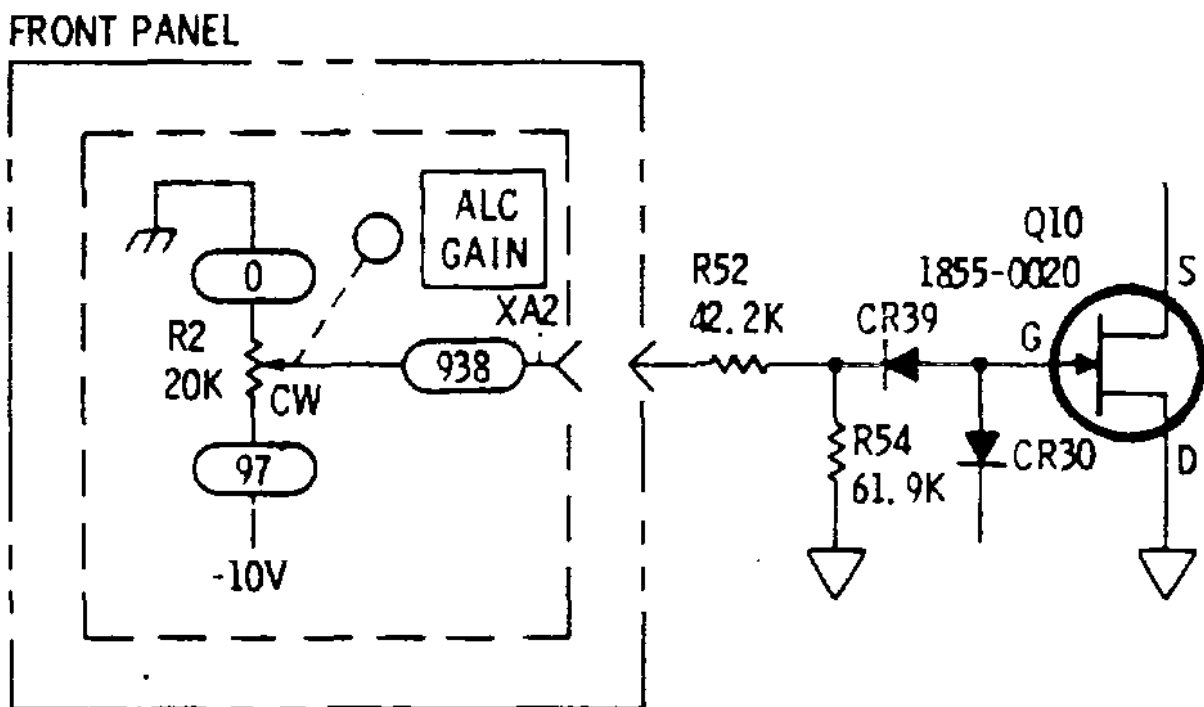

Figure 9-7 (CHANGE 1)
Page 9-11, Figure 9-7:
Add CR39 as shown in partial schematic Figure 9-7 (CHANGE 1).
Add the NOTE: See Figure 9-6, A2 ALC Assembly, Component Locations and Figure 9-7, A2 ALC Assembly, Schematic on page 9-11 of Section IX.
**The A2 ALC Assembly, Circuit Description on page 814 applies to the A2 schematic on page 9-11. However, since Figure 9-7 has different reference designators, care must be taken when cross referencing. The Read Only Memory (ROM) Diode Decoder in Figure 9-7 is explained below.**
The diode decoder circuit in the 86260A A2 ALC Assembly (Option 001) (Figure 9-7) is a means for selecting one of three leveling control functions: Meter, External, and Internal leveling. The OFF position disables all leveling so the UNLEVELED lamp DS1 remains ON. The following description details the operation of two circuits in the internal leveling circuitry: the Slope adjust A2R17 and Internal leveling switch A2Q7. The other circuits connected to the diode decoder operate similarly.